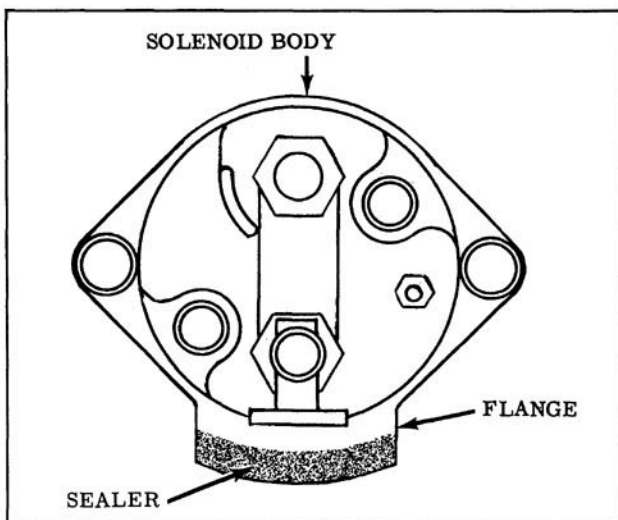

Fig. 13-60 Sealing Solenoid Housing
5. Apply sealer, Part No. 557622 on solenoid flange as shown in Fig. 13-60.